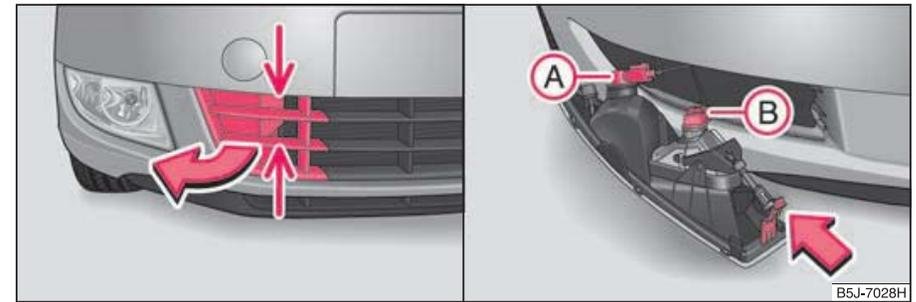

Fig. 173 Front bumper: Protective grille/removing the fog light
- Grasp the grille at the points marked with the arrows ⇒ fig. 173 - left and take it out.
- Guide your hand into the opening in which the grille was located and press the spring bolt ⇒ fig. 173 - right.
- Turn the socket ① with the bulb for daylight driving light or the socket ② with the bulb of the fog light to the left up to stop and take it out.